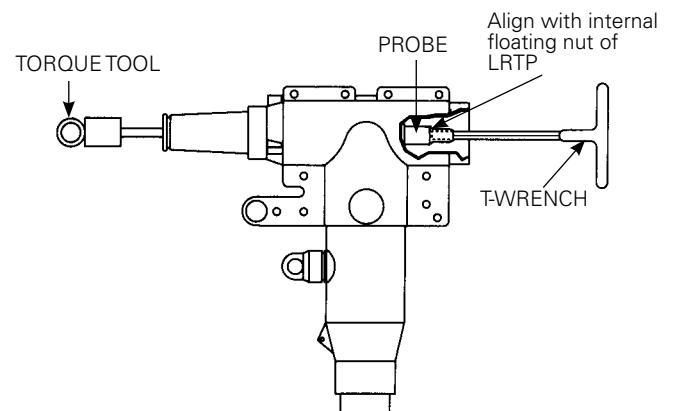

Figure 15. Line illustration of T-Wrench installation.
- Holding probe in place with 5/16" hex T-Wrench, tighten probe until torque tool begins to ratchet (20 to 25 ft. lbs.). (Refer to Figure 15.)